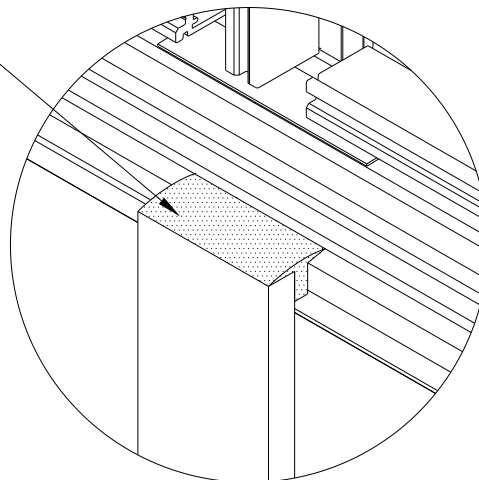

Figure 29: Face Cap / Pressure Plate Seal
- 12.16 Once pressure plates and face caps are installed. Top side of face cap will have backer rod inserted into opening and sealant applied to seal pressure plate and cap. See *Figure 29*.